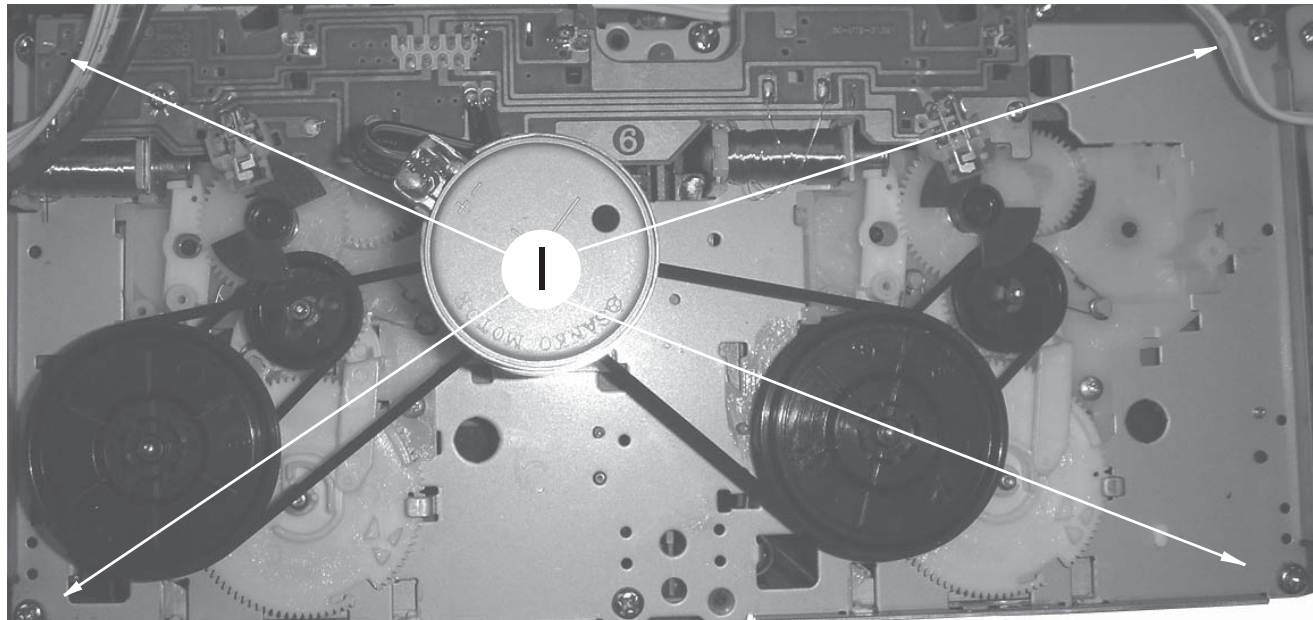

Figure 12
2) Loosen 4 screws 'I' to remove the Cassette Module figure 12.